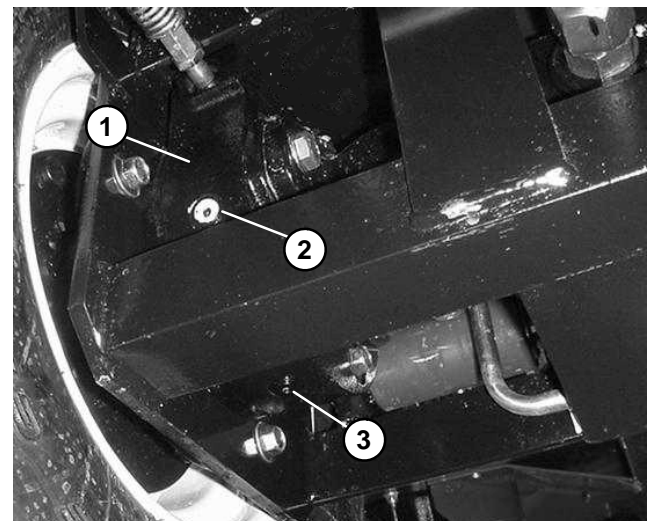

Figure 3
8. Make sure drain plug is installed in bottom of brake assembly (Fig. 3). Fill planetary wheel drive/brake assembly with SAE 85W-140 gear lube (see Operator's Manual). Capacity is approximately 16 oz. (.47 l) per wheel.